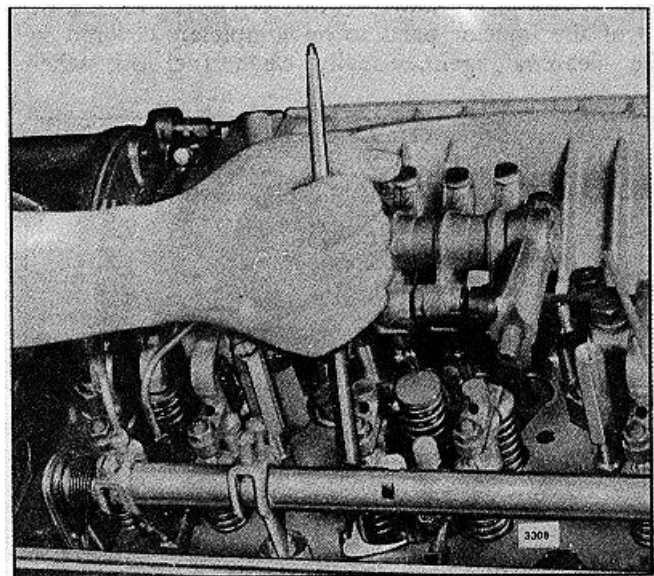

Fig. 7 Removing Injector from Cylinder Head
4. Remove the two rocker shaft bracket bolts and swing the rocker arms away from the injector and valves (Fig. 7).
7. Lift the injector from its seat in the cylinder head (Fig. 7).